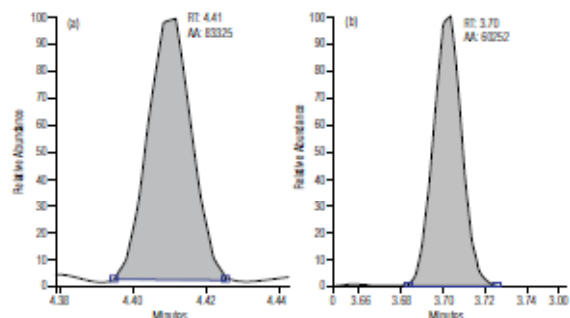
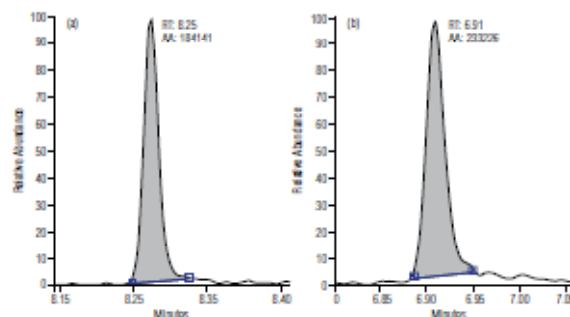
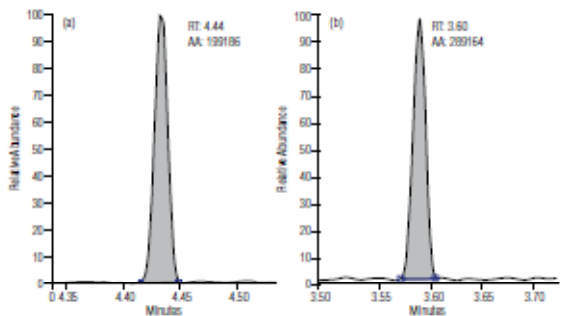

Figure 1. Injection of 1 pg/μL OFN in EI mode results in S/N of at least 100:1 for hydrogen (a.) vs. 600:1 for helium (b.).
Figure 2. Injection of 100 pg/μL benzophenone in CI mode results in S/N of at least 300:1 for both hydrogen (a.) and helium (b.).
Figure 3. Injection of 200 fg/μL OFN in CI mode results in S/N of at least 600:1 for both hydrogen (a.) and helium (b.).
The system sensitivity was such that a 1 μL injection of 1 pg/μL standard yielded a signal-to-noise (S/N) ratio of at least 100:1 (Figure 1) for octafluoronaphthalene (OFN) in EI mode. Chemical Ionization (CI) yielded S/N of at least 300:1 (Figure 2) and 600:1 (Figure 3) for 100 pg benzophenone and 200 fg OFN respectively.